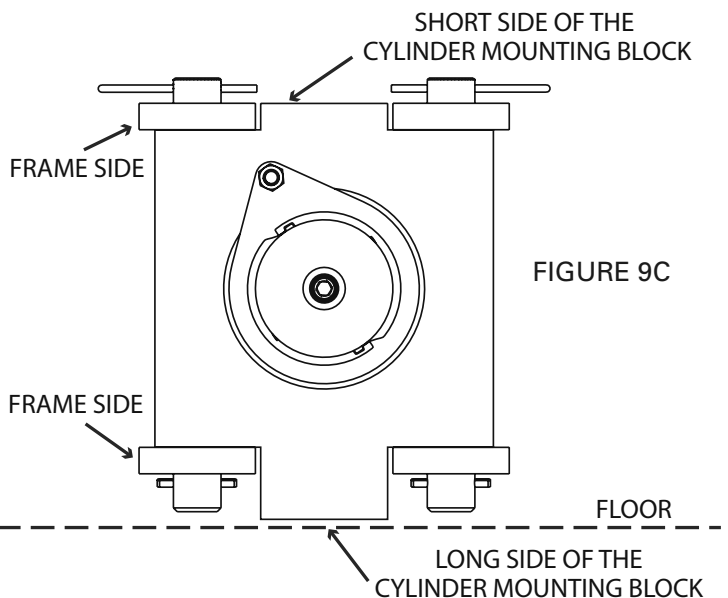
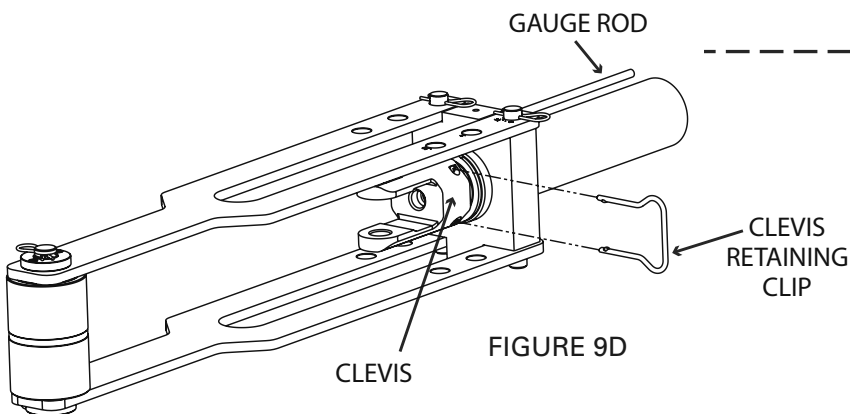

FIGURE 9C
FIGURE 9D
6. Rotate the frame and hydraulic cylinder so the long side of the cylinder mounting block is resting on the floor (See Figure 9C). Then place the clevis onto the end of the hydraulic cylinder and secure with the clevis retaining clip (see Figure 9D).